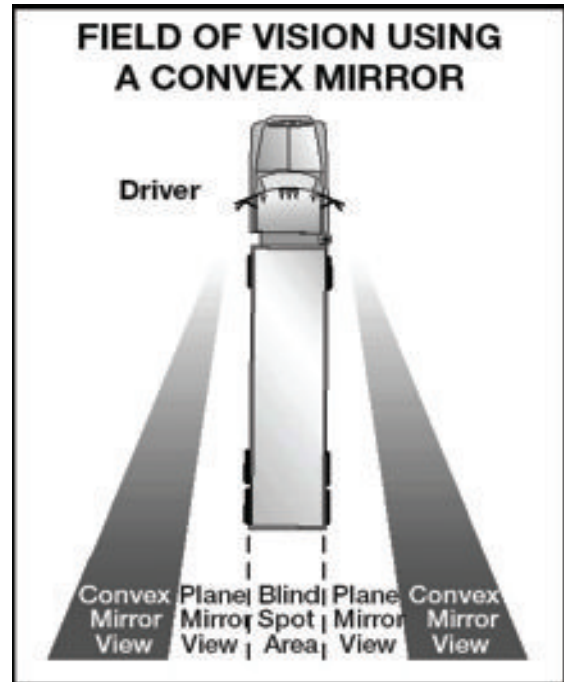

Figure 2.7
- Many large vehicles have curved (convex, "fisheye," "spot," "bugeye") mirrors that show a wider area than flat mirrors. This is often helpful, but everything appears smaller in a convex mirror than it would if you were looking at it directly. Things also seem farther away than they really are. It's important to realize this and to allow for it. Figure 2.7 shows the field of vision using a convex mirror.